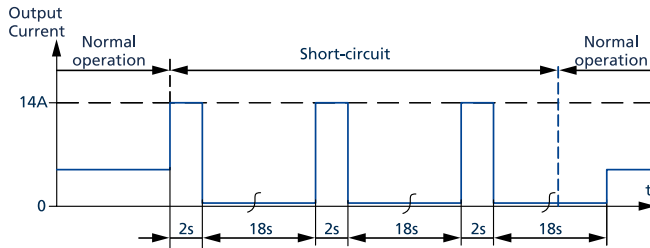

Fig. 6-3: Short-circuit on output, Hiccup^{PLUS} mode, typ.
- 3) At heavy overloads (when output voltage falls below 13 V), the power supply delivers continuous output current for 2 s. After this, the output is switched off for approx. 18 s before a new start attempt is automatically performed. This cycle is repeated as long as the overload exists. If the overload has been cleared, the device will operate normally. See Fig. 6-3.